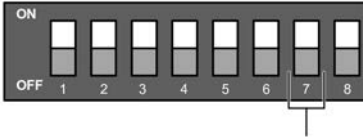
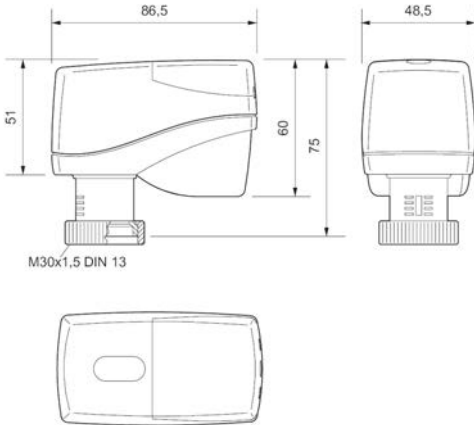

Fig. 7: DIP switch
Fig. 10: X-VALVE-MOD-KP-MD15-Q-J6
In the assembly position, the spindle is fully retracted and the DIP switches (Bits 1 to 6) are set to "OFF" (Fig. 7 and Fig. 10).
1. ▶ Move the actuator to the assembly position (DIP switch, bits 1 to 6 to "OFF" ↪ Fig. 7).